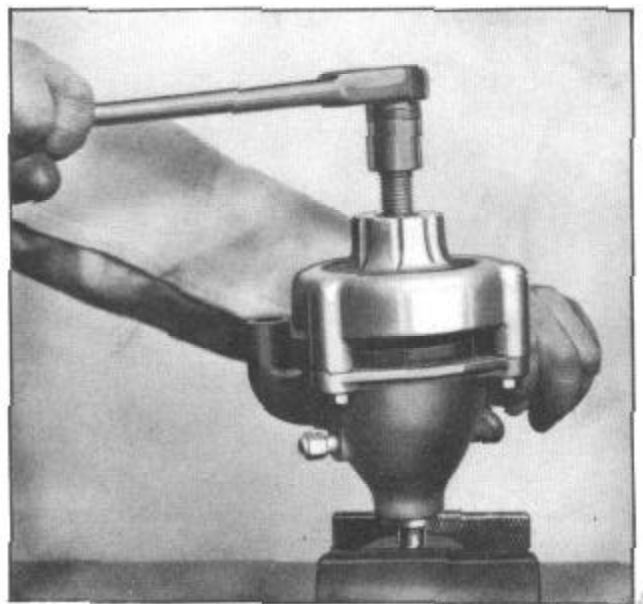

Figure 7--Removing water pump shaft
7. After the burr has been removed the thumb screw and cutter are removed and the driver (No.4) is inserted into the thumb screw. Reassemble the thumb screw with its driver into the body (No.1) and turn the driver thereby pressing the shaft through the impeller as illustrated in Figure 7.